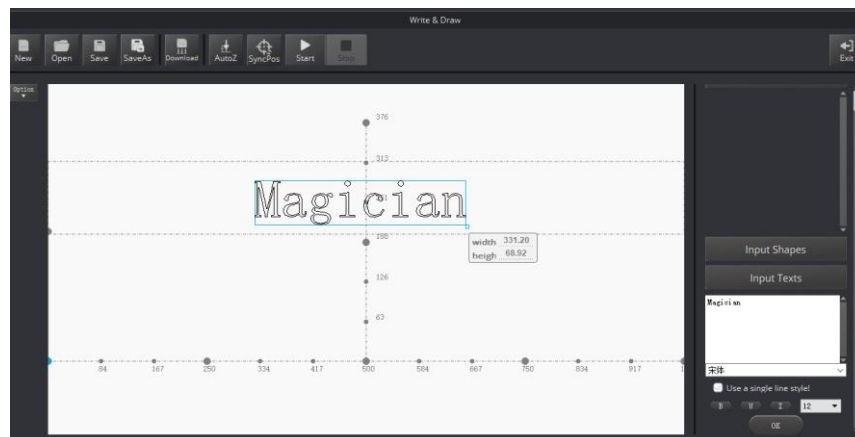

Figure 5.197 Input text
Step 5 Input text on the **Input Texts** pane and click **OK**, as shown in Figure 5.197.